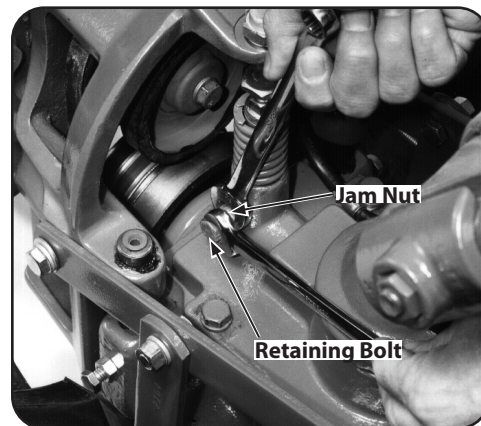

Figure 5-22
2. On the left side of the tiller, put a 1/2" wrench on the plunger retaining bolt and another 1/2" wrench on the jam nut next to it. See Figure 5-22.
9. Hold the plunger retaining bolt steady with a wrench while tightening the jam nut against the side of the plunger housing. See Figure 5-22.